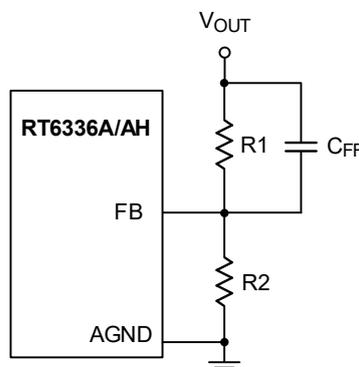
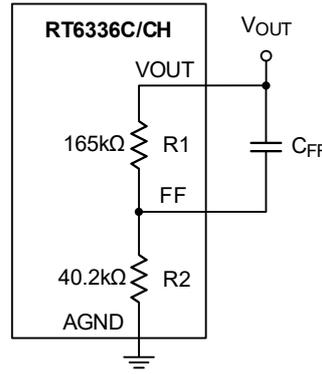
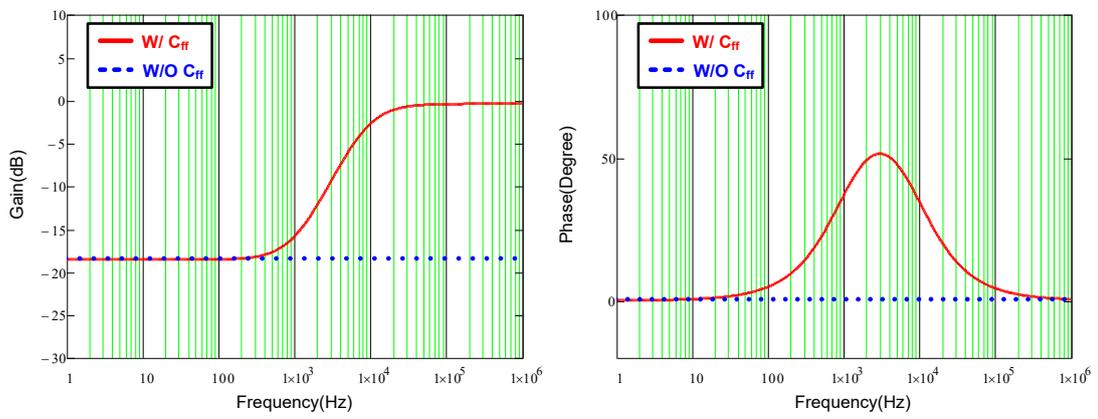

Figure 16. Feedback Loop with Feedforward Capacitor for the RT6336A/RT6336AH
Figure 17. Feedback Loop with Feedforward Capacitor for the RT6336C/RT6336CH
Figure 18. Bode Plot with Different Feedback Loop Conditions
To save time for compensator design and to reduce the layout area through external components, the components of the compensator are integrated in the IC. However, this integrated compensator might not be suitable for every load transient specification. Hence, to make the device more adaptable, the feedforward capacitor CFF is used in the feedback loop to improve transient response, as shown in Figure 16 and Figure 17. Figure 18 shows the comparison result of the bode plot with different feedback loop conditions. Referring to Figure 18, by connecting a CFF in the feedback network, the gain and phase are raised in the mid-frequency range, which not only extends the bandwidth, but also boosts the phase margin. Moreover, there is also a high-frequency pole to eliminate high-frequency noise. Consequently, those features of the feedforward feedback network allow the device to have faster response to different load transients.
According to Figure 18, the maximum phase boost that occurs between the zero and pole frequencies is defined as the maximum phase boost frequency, as expressed in equation (4). Hence, in order to achieve the maximum phase boost by adding  $C_{FF}$  in the device, the system's original bandwidth has to be located at maximum phase boost frequency.